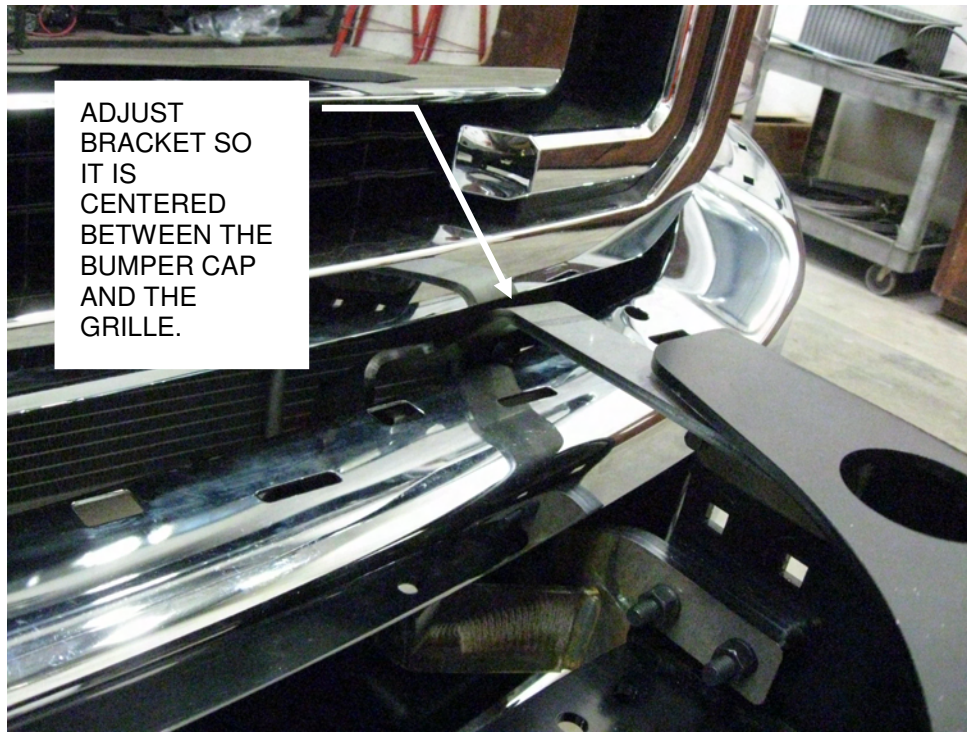

Figure 8: Driver's Side View. Upper Frame Brackets
7. **Large Frame carrier only.** Install the upper frame brackets. Use **Figure 8** to determine the location of the left and right upper frame brackets. Install the upper frame bracket to the main frame bracket using the 7/16" x 1-1/2" round head bolts. Install a bolt through each of the 2 holes in the main frame bracket and through the upper frame bracket. Install a 7/16" washer; lock washer and nut onto each bolt. Leave all fasteners very loose. Install the round head bolts through the winch carrier and upper frame bracket. Install a 7/16" washer; lock washer and nut onto each of the 2 bolts. Repeat this for the opposite side of the winch carrier. Adjust bracket height for best fit between bumper and grille then tighten all bolts to specified torque values.